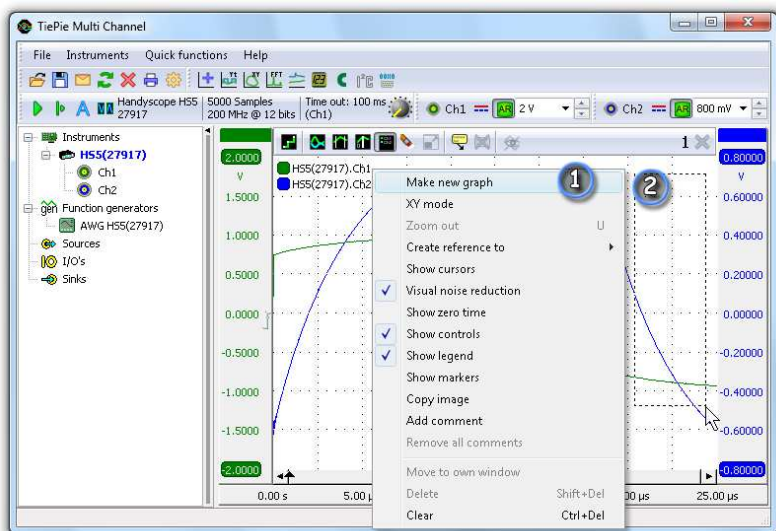

Figure 3.1: Create a new graph in two steps
It is also possible to create a graph at a self defined location. ① Right-click anywhere in a graph on the main screen and select **Make new graph** from the menu. ② After dragging a rectangle anywhere on the graph section, a new graph will be created on the selected position. See figure 3.1.